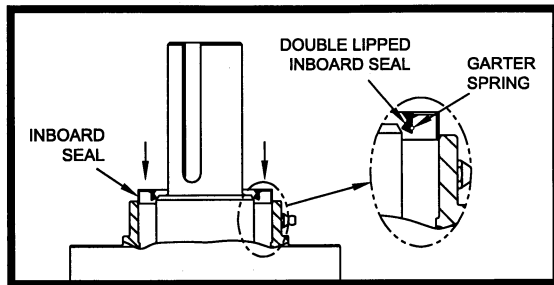

Figure 6.2.2.1 Orientation of Inboard Seal for Installation
3. Place the ring on the seal. Reference Figure 6.2.2.2.